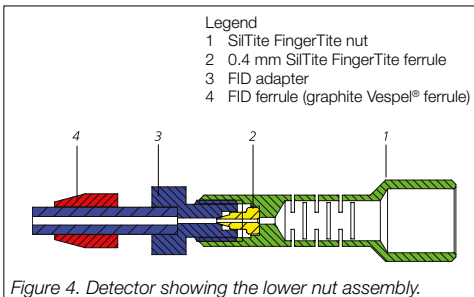

Figure 4. Detector showing the lower nut assembly.
4. Locate the adapter FID (1), original nut (5), and 1/8" Graphite Vespe^l® ferrule (5) and assemble as displayed in Figure 4.